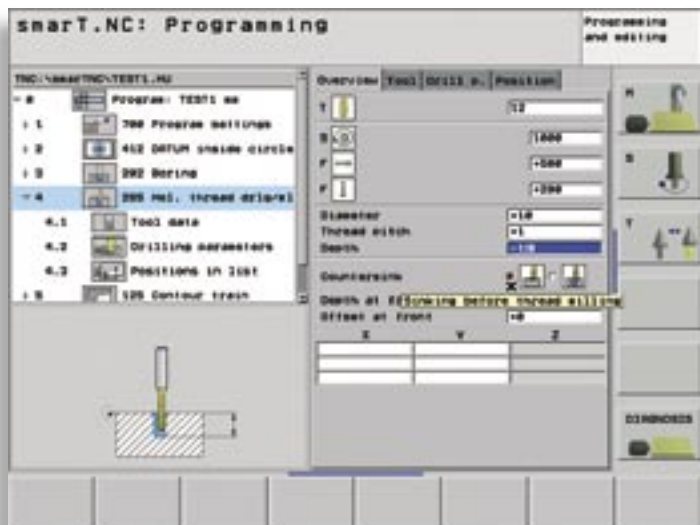

Figure 14: Tip texts provide additional information
- Explanatory tips that appear on contact with the mouser pointer (Figure 14)